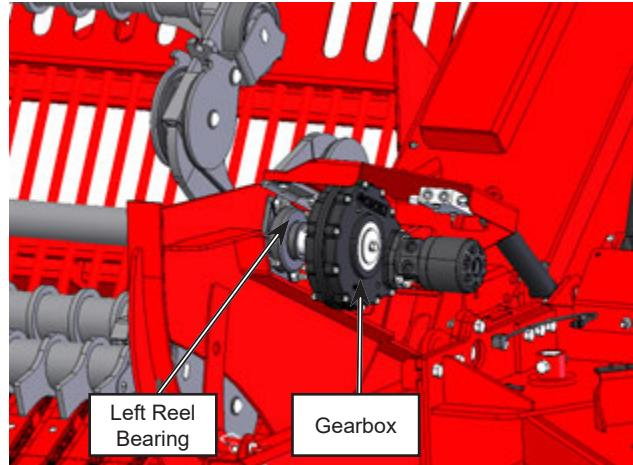

Figure 7.12: Grease reel bearings;
- Lubricate the right and left reel bearings; see Figure 7.12.
- If rock picking is complete for the season, change the oil in the gearbox; see Figure 7.12.